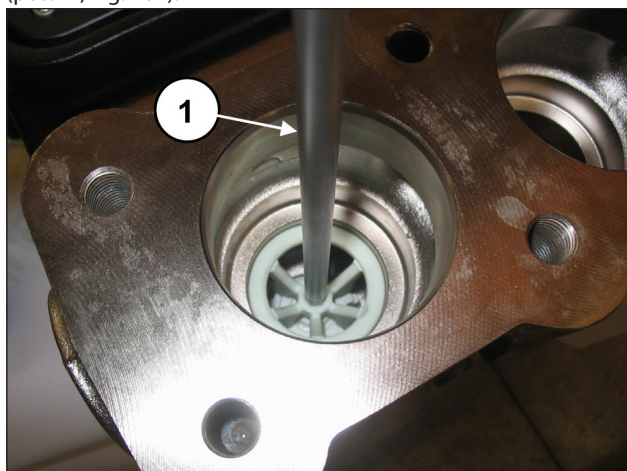

Fig. 104
Take out the valve guide spacer using an 8 mm hex wrench (pos. ①, Fig. 104).